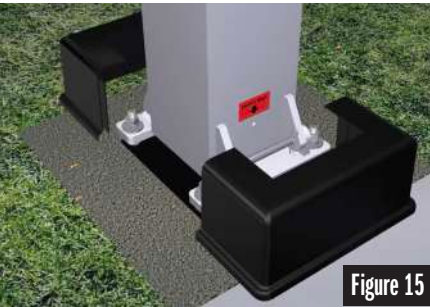

Figure 15
- Remove the screws from the Base Cover (Part F). See Figure 15.